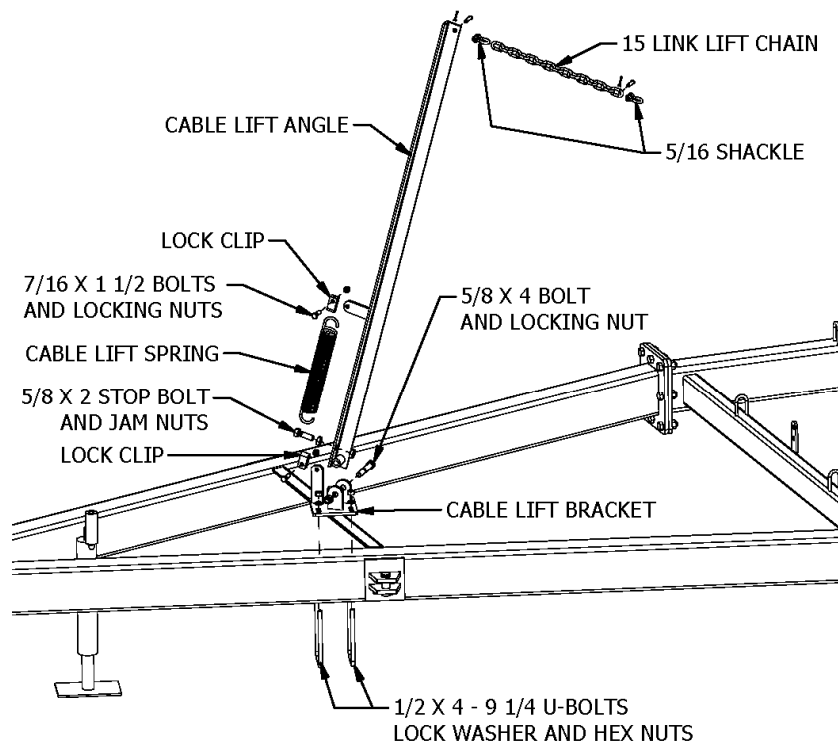

Figure 22
1. Bolt the cable lift bracket to the A-Frame just ahead of the wing cable bracket located on the side of the A-Frame. Refer to Figure 22. Use two ½” x 4” x 7 ¼” U-bolts, lock washers, and hex nuts. Do *not* tighten yet. Note: There is a left hand and right hand assembly.